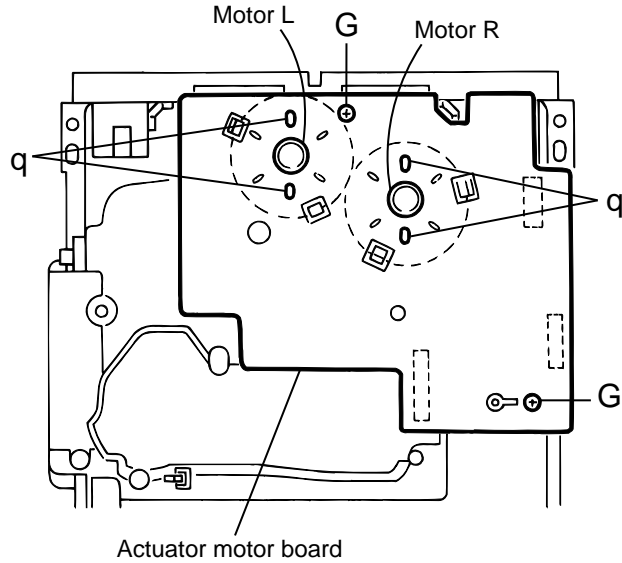

Fig.14
(See Fig.14, 15)
1. Absorb the four soldered positions "q" of the right and left motors with a soldering absorber(See Fig.14).
2. Remove the two screws G retaining the actuator motor board(See Fig.14).